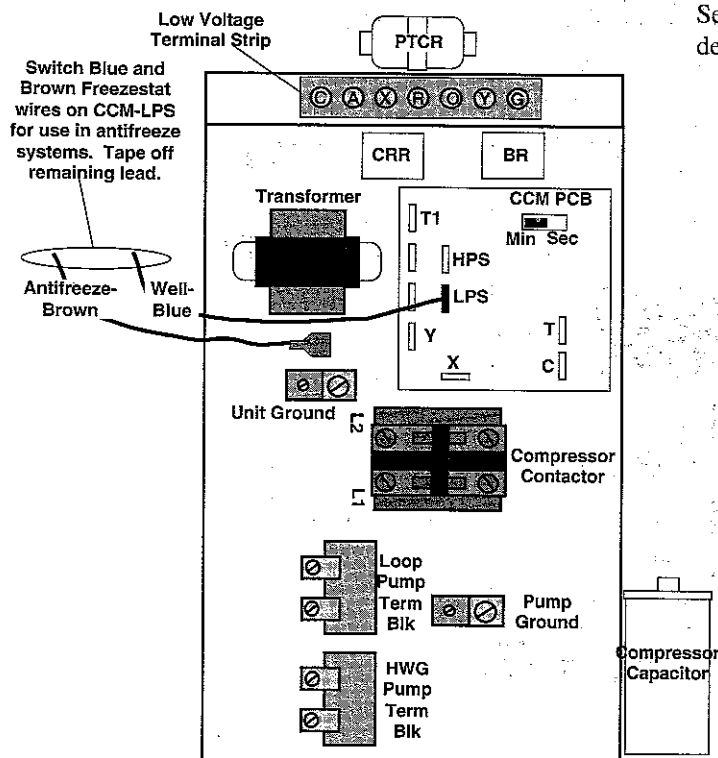

Figure 20. Low Voltage Field Wiring.
**FREEZESTAT** - The high temperature freezestat (water) should be activated. This is shipping position to avoid freeze damage to the unit. See low voltage wiring section See Figure 20.
The freeze protection setting can be changed by switching the freeze sensor wiring Fig 20. The freeze protection sensor for water is factory wired and must be switched for antifreeze operation in closed loop systems. On applications using an open loop/ground water system, leave in the water setting (the factory setting).